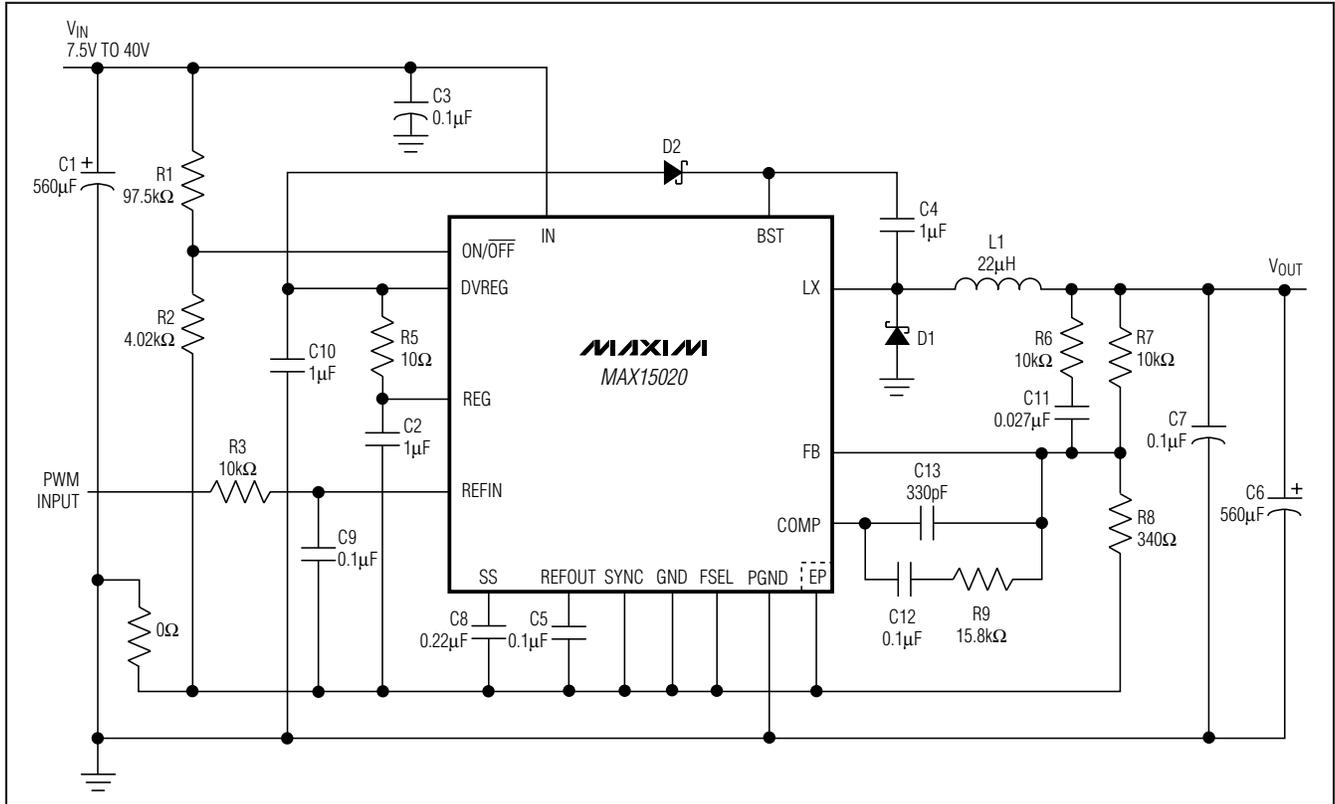

Figure 2. Typical Application Circuit
( $V_{IN} = 36V$ , Circuit of Figure 2,  $T_A = +25^\circ C$ , unless otherwise noted.)
The MAX15020 features a reference input for the internal error amplifier. The IC regulates FB to the SS voltage which is driven by the DC voltage applied to REFIN. Connect REFIN to REFOUT to use the internal 0.98V reference. Connect REFIN to a variable DC voltage source to dynamically control the output voltage. Alternatively, REFIN can also be driven by a duty-cycle control PWM source through a lowpass RC filter (Figure 2).
When the voltage at ON/OFF rises above 1.225V, the MAX15020 turns on. Connect a resistive divider from IN to ON/OFF to GND to set the turn-on voltage (see Figure 2). First select the ON/OFF to the GND resistor (R2), then calculate the resistor from IN to ON/OFF (R1) using the following equation:
Connect a resistor-divider from OUT to FB to GND to set the output voltage (see Figure 2). First calculate the resistor (R7) from OUT to FB using the guidelines in the *Compensation Design* section. Once R7 is known, calculate R8 using the following equation:
The basic regulator loop consists of a power modulator, an output feedback divider, and a voltage error amplifier. The power modulator has a DC gain set by  $V_{IN} / V_{RAMP}$ , with a double pole and a single zero set by the output inductance (L), the output capacitance ( $C_{OUT}$ ) ( $C_6$  in the Figure 2) and its ESR. The power modulator incorporates a voltage feed-forward feature, which automatically adjusts for variations in the input voltage resulting in a DC gain of 9. The following equations define the power modulator: